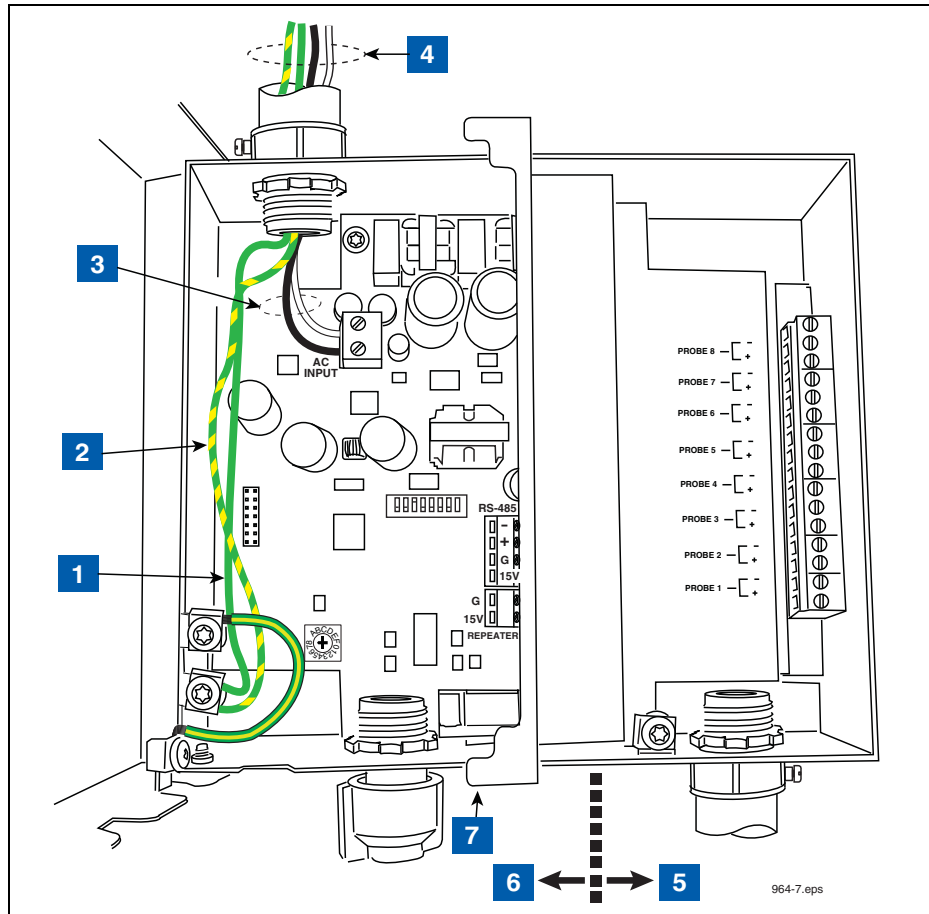
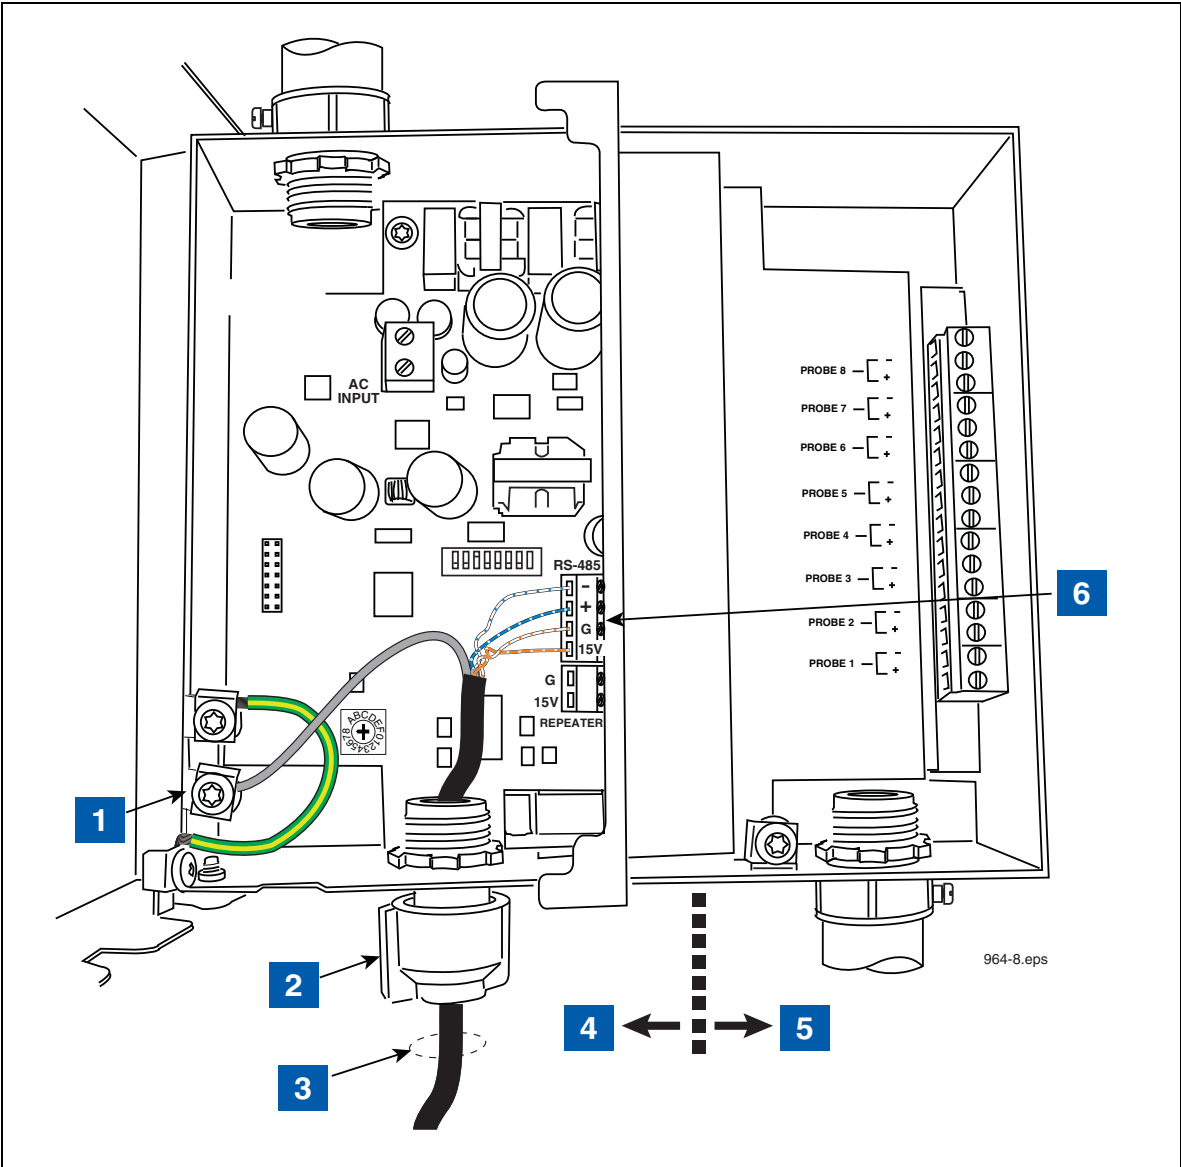
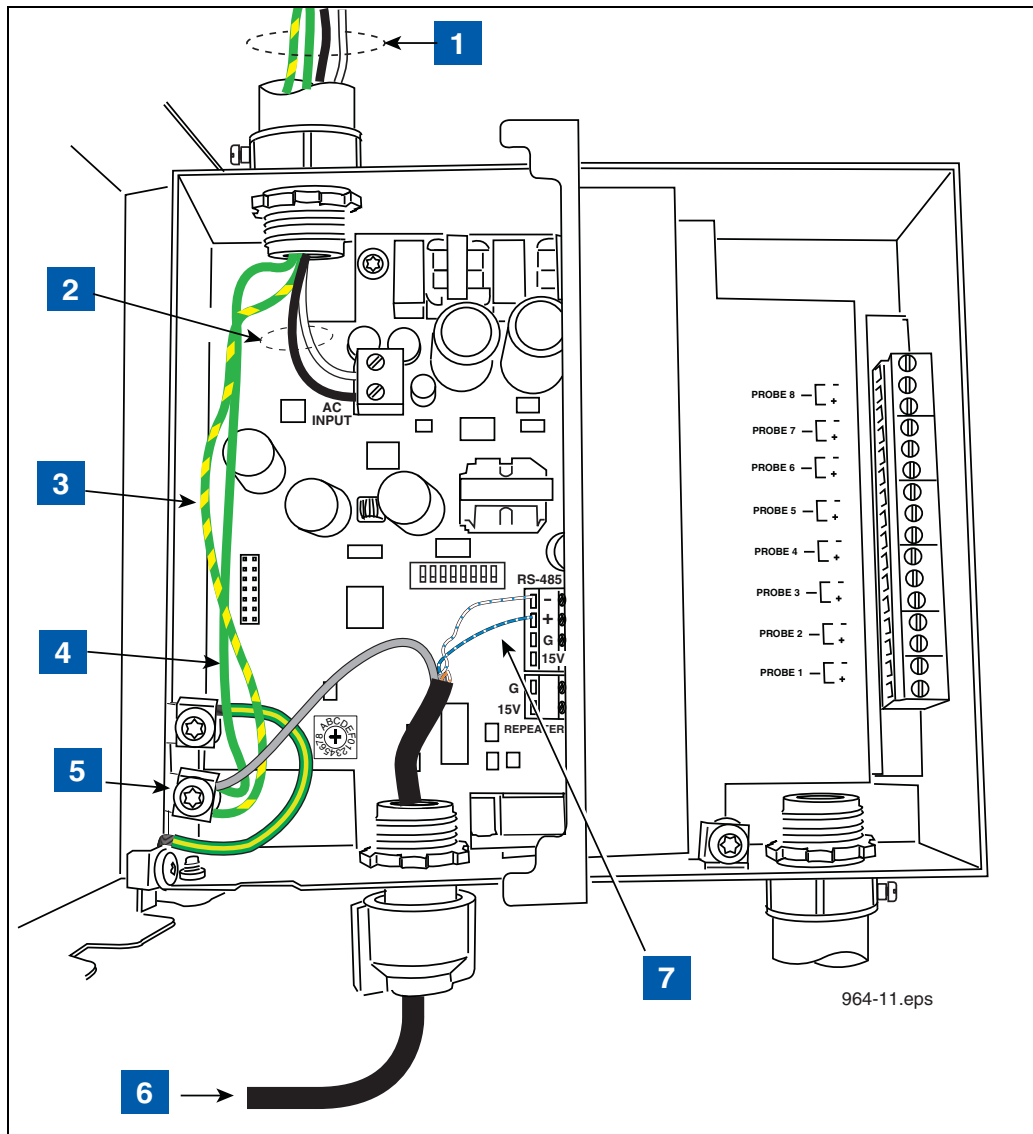
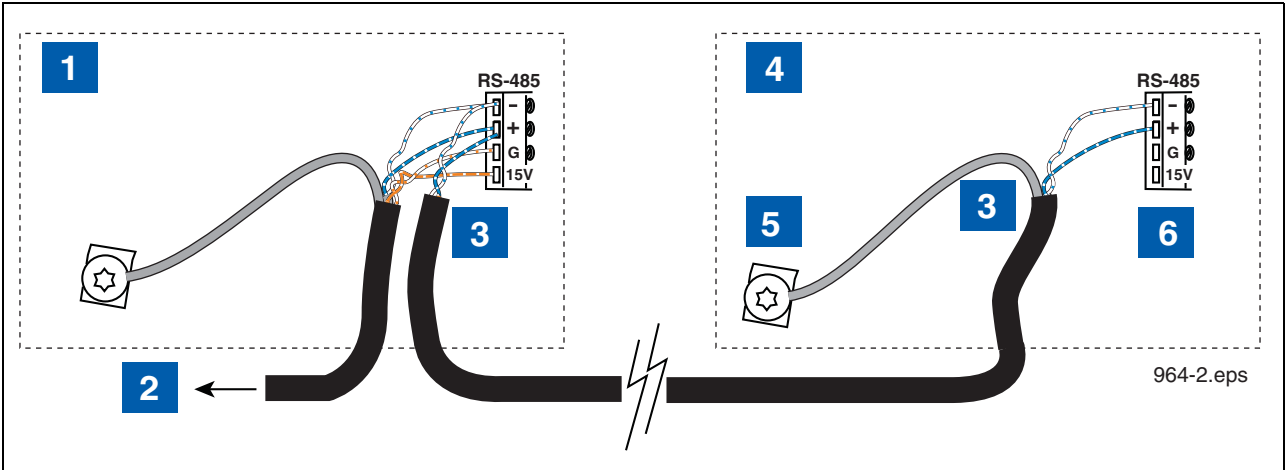

Figure 6. Wiring AC Power To The TLS RF
Figure 7. Wiring Receiver To The TLS RF
Figure 9. Power Connections To A Daisy Chained TLS RFs
Figure 10. RS-485 Cable Connections When Daisy Chaining Two TLS RFs
4. Using a #15 torx driver, open the covers of the TLS RF, Repeater and Receiver. Make a temporary ac power cord with a grounded plug on one end. Connect the ac power cord to the TLS RF's input power terminals and ground terminal (refer to Figure 6 and Figure 7). Connect a necessary length of RS-485 cable from the TLS RF's RS-485 terminals to the Receiver's RS-485 terminals (refer to Figure 23). Connect a necessary length of 2-conductor cable from the Receiver's Repeater terminals to the Repeater's Repeater terminals (refer to Figure 24).
To connect power wiring see Figure 6. To connect Receiver wiring see Figure 7. To daisy chain two TLS RFs, see Figure 9 and Figure 10. To connect TLS RF data output wiring to the TLS console see Figure 6.
LEGEND FOR NUMBERED BOXES IN Figure 6
LEGEND FOR NUMBERED BOXES IN Figure 7
LEGEND FOR NUMBERED BOXES IN Figure 9
7. See Figure 10 for connections.
LEGEND FOR NUMBERED BOXES IN Figure 10